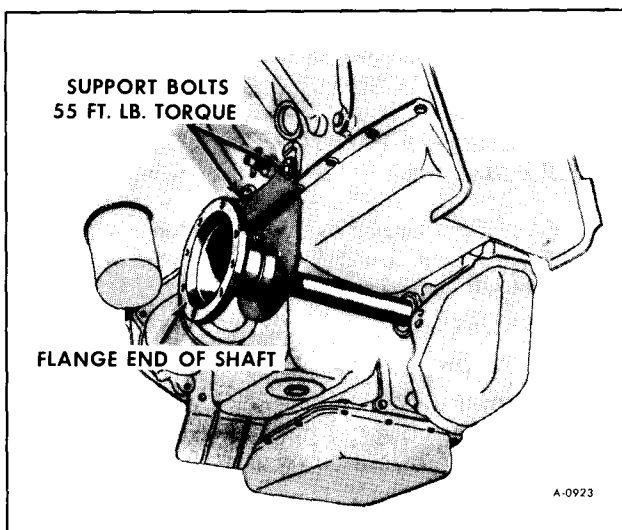

Figure 3—Aligning R.H. Output Shaft
3. Remove inner C.V. joint attaching bolts. (figure 3)
IMPORTANT: When attaching the right hand output shaft to the engine bracket, do not let the shaft hang. Referring to Figure 3, assemble bracket bolts loosely, and by moving the flange end of the shaft up and down, and back and forth, find the center location. Hold the shaft in this position and then torque the bolts to 55 ft. lbs. on support.